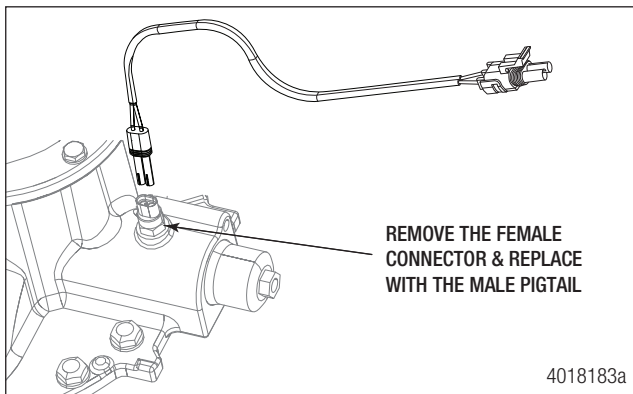

Figure 4
15. Remove the female DCDL connector and install the male connector with pig tail (KIT 4429). Figure 4.